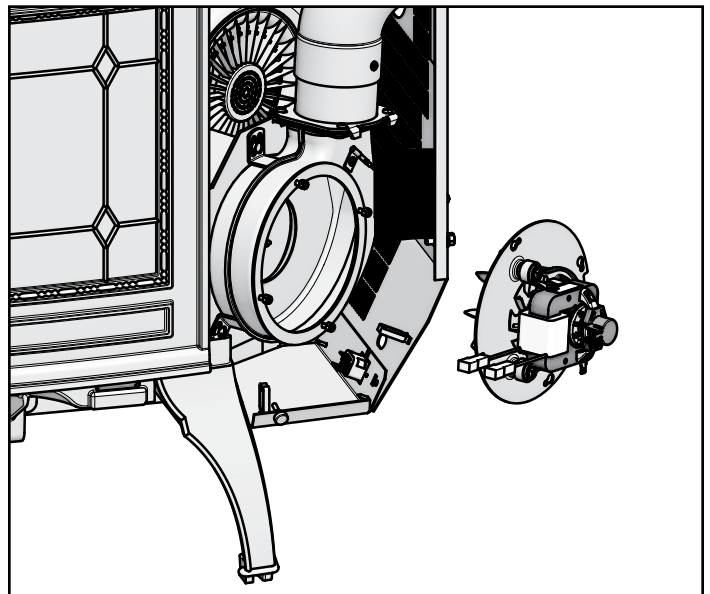

Figure 22.2
2. Remove the right side panel by loosening the 2 screws using a Phillips head screw driver or wrench (**Figure 22.2**).